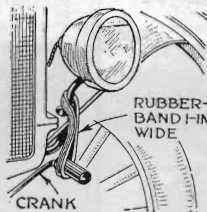

Fig. 2. How the crank handle can be held up out of the way so it will not rattle or hide the license
**T**HE easiest way to hold the crank handle up out of the way of the license plate and to keep it from swinging back and forth continually and thus causing excessive wear on the bearing, is to cut off a piece about 1 1/4 inches wide from a piece of old inner tube either 29 by 4.40 or 32 by 4 size. After the lamp plug is removed from one of the headlights, the piece of inner tube should be slipped over the headlight and snapped around the crank handle as shown in Fig. 2. The quality of the rubber in auto inner tubes is so good that the band will last for a long time.